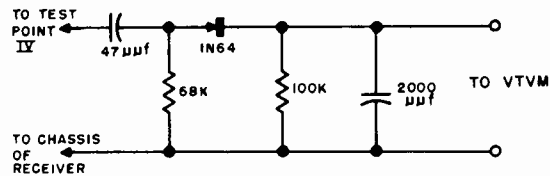

FIG. 5 DETECTOR NETWORK
3. Connect detector network (Figure 5) to Test Point IV. Connect an AC VTVM to the network.